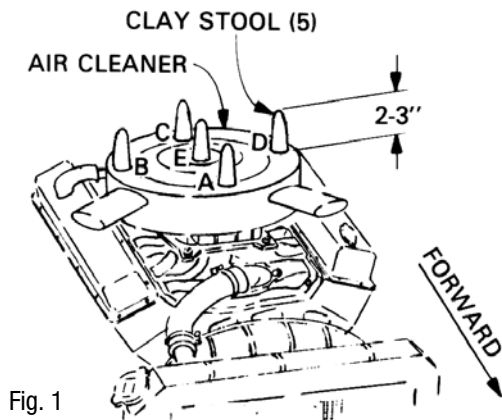

Fig. 1
- MANIFOLD TORQUE—Torque all manifold bolts circled in Figure 1 to 18-20 ft./lbs. See Figure 1 for proper sequence.
2. Position stools on air cleaner at front, rear, each side and on center stud. See Figure 1.